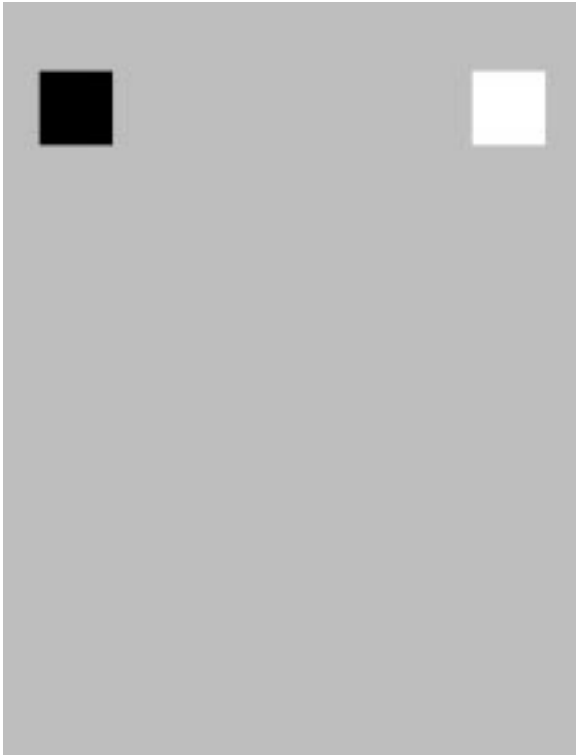

Figure 3-3. *GHOSTTEST.TIF* Test Print File
3. Print the file *GHOSTTEST.TIF* and inspect the printout for ghosts of either the black or white squares anywhere else on the page. Refer to figure 3-3.